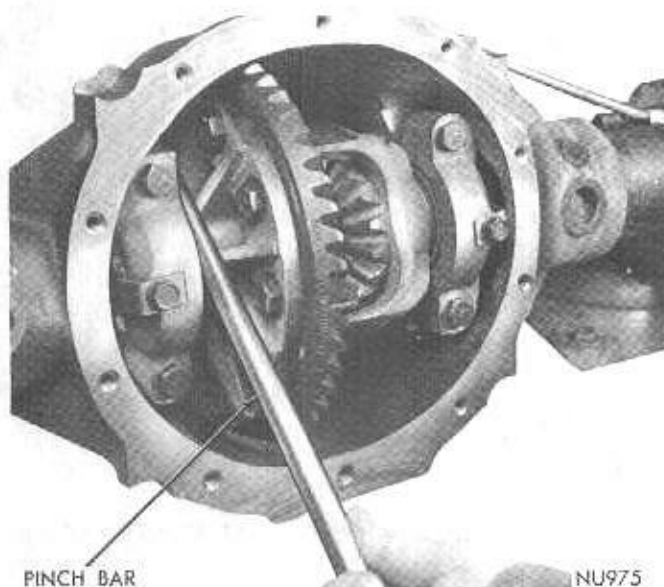

Fig. 8—Checking Differential Side Play
(4) Measure for differential side play. Position a screwdriver or pinch bar between left side of axle housing and differential case flange, then using a prying motion determine if side play is present. **There should be no side play.** (Fig. 8).